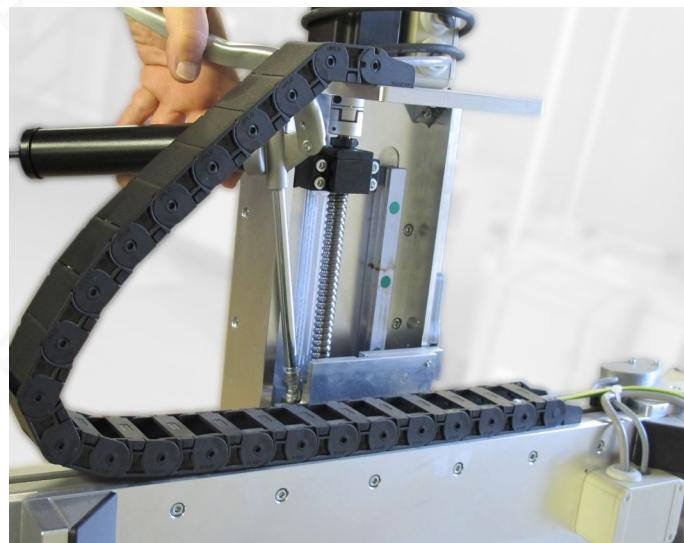

Fig. 49: Lubricating Z-axis spindle nut
- Lubricate the Z-spindle nut as shown in Figure 49.